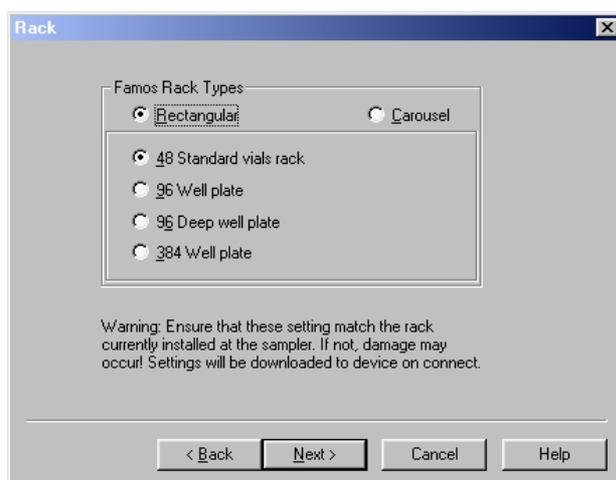

FIGURE 2-20 FAMOS Rack Box
- b) Select the **Port** and click on **Next**, the FAMOS *Rack* box (FIGURE 2-20) appears.